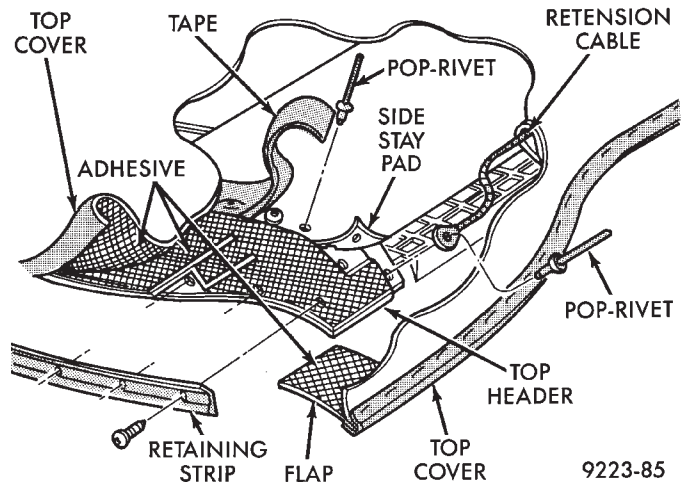

Fig. 6 Stay Pads and Retention Cables
(1) Lower convertible top and remove top header trim cover.
(2) Remove screws holding forward top cover retaining strip to top header and separate strip from top.
(3) Using a heat gun to soften the adhesive, separate the top cover from the top header (Fig. 6).
(4) Peel top cover back over forward edge of header to gain access to stay pad and retention cable attachment.